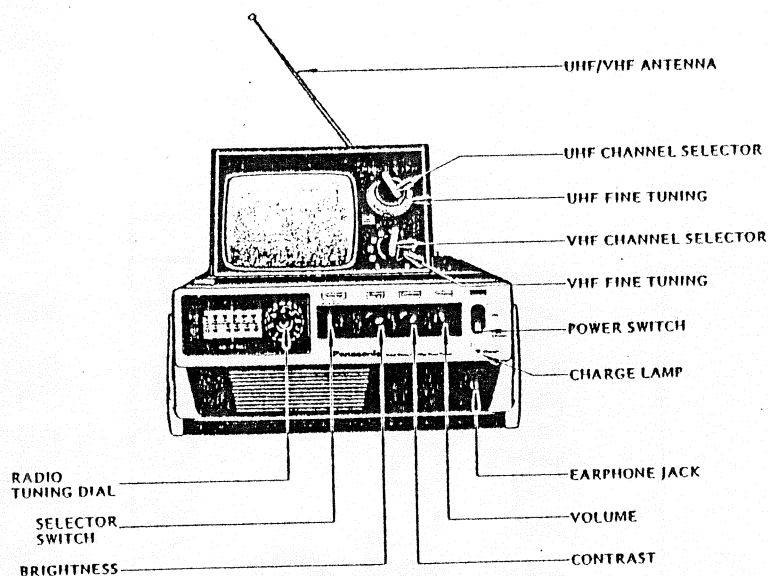

Fig. 1
1. Sweep & marker generator, oscilloscope and DC power supply Connect and set as shown in Fig. 1